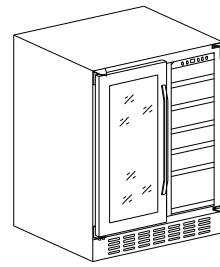

Fig:3
2. Fig:2 Remove the door in position ①, then take out the door in position②. Fig:3 shows the door is taken out;